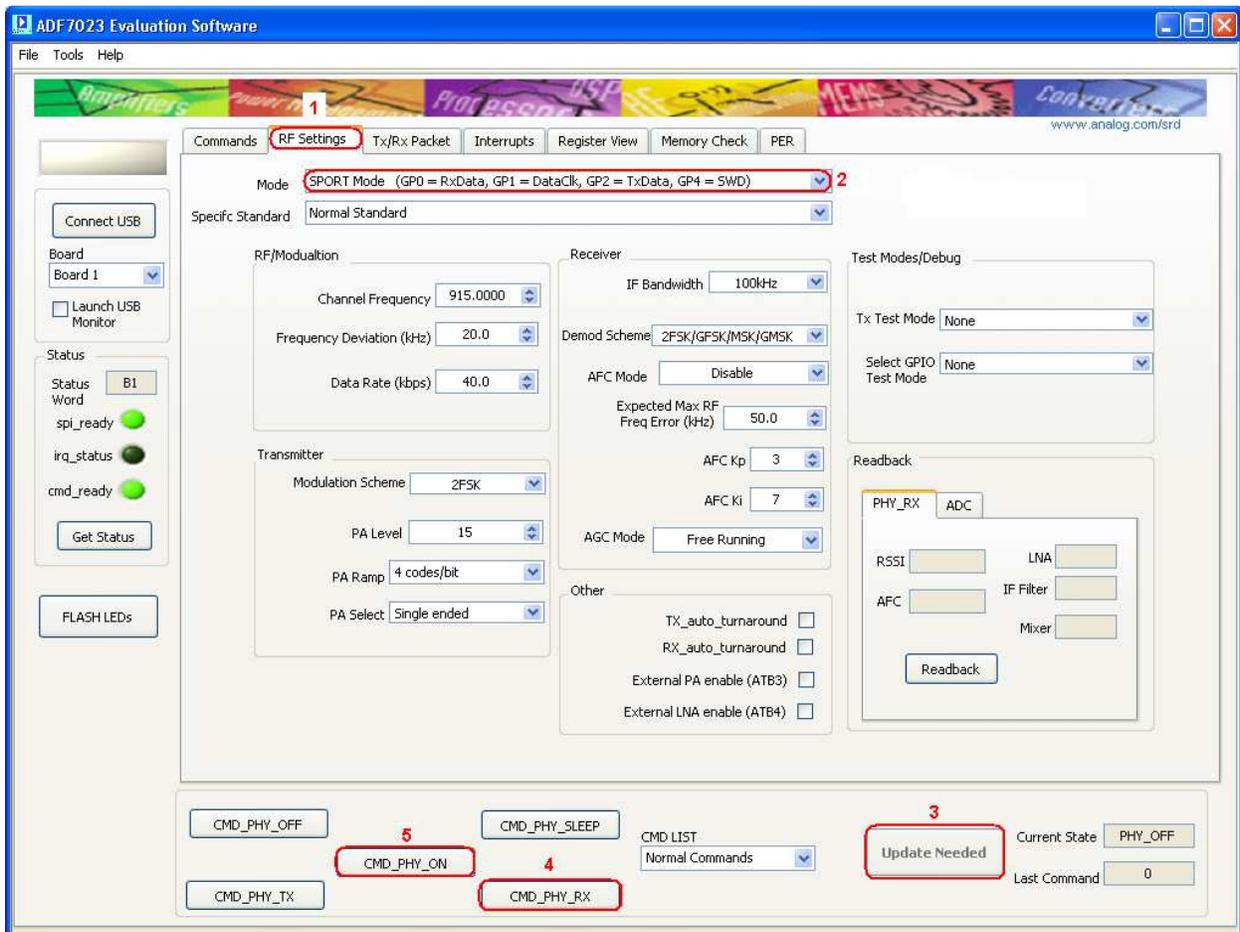

Figure 26
1. Select the “**RF Settings**” Tab and set the RF parameters as required. (Figure 26 point(1))
2. If not already in **PHY_ON** enter this state by pressing **CMD_PHY_ON**. (Figure 26 point (5))
3. Select the **SPORT Mode** (Figure 26 point (2))
4. Press **Update Needed**. This writes the settings to BBRAM and then does a **CMD_CONFIG_DEV**. (Figure 26 point (3))
5. Press **CMD_PHY_RX**. The part now enters **PHY_RX**. (Figure 26 point (4))
6. To exit **PHY_RX** press **CMD_PHY_ON** (Figure 26 point (5))